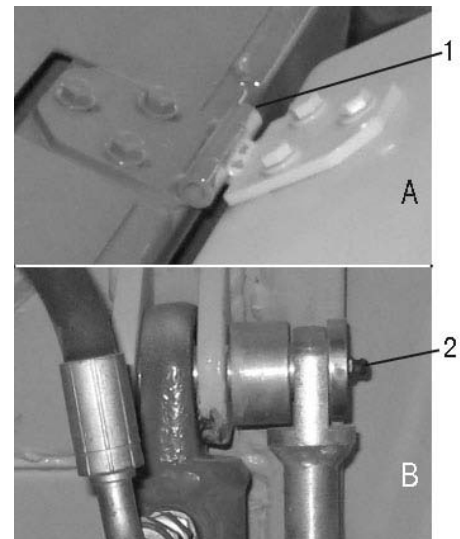

Figure 3-21
3.4.4.4 Lubricate the hinges and other parts of the hood (figure 3-21)